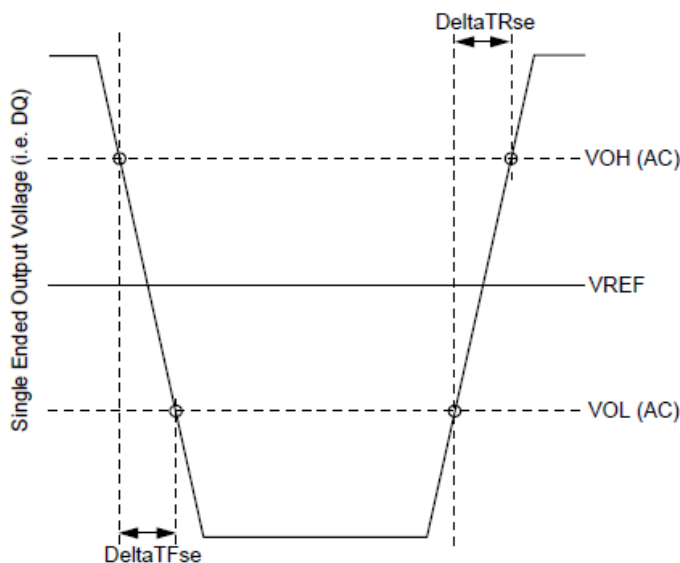

Figure 3-8 — Single Ended Output Slew Rate Definition
With the reference load for timing measurements, output slew rate for falling and rising edges is defined and measured between VOL(AC) and VOH(AC) for single ended signals as shown in Table 3-14 and Figure 3-8.